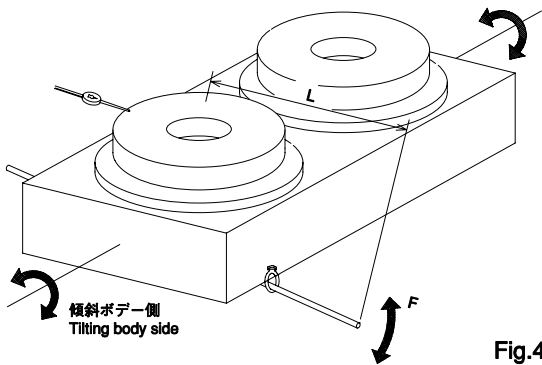

Fig.4
- 3) Perform the above measurement at 8 positions by rotating the table and compare them with the above adequate values. (See Fig.4.)
### 10-2 傾斜軸ウォームギヤのバックラッシ測定方法 (Fig.4 参照)
### 10-2 Backlash measuring method of worm gears of tilting axis (See Fig. 4.)
- 2) Read the value of dial gauge at the position where the table stops after rotating the tilting body slowly in one way with the flat steel or round bar inserted in eye bolts screwed in tap holes on the table back face (with worm wheel gear tooth attached). At this time, for the torque added to the tilting body, refer to the list created later. Next, rotate the tilting body under the same condition in the reverse direction to read the value of dial gauge. This difference of measured values is the backlash. (See Fig.4.)